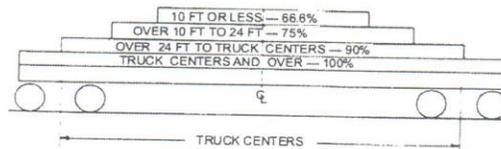

Fig. 3.3 Flatcars built before January 1, 1965
3.4.4.4 Fig. 3.3 applies to all flatcars built prior to January 1, 1965, except flatcars equipped with both fish-belly center sills and fish-belly side sills.